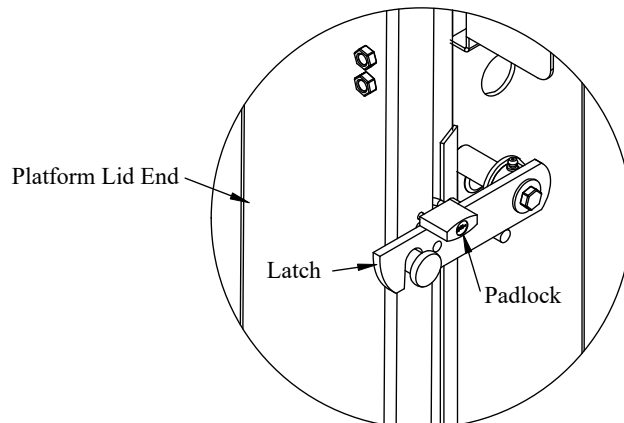

Figure 14: Padlock location.
9. **Lock** the padlock through the hole in the platform (Figure 14).